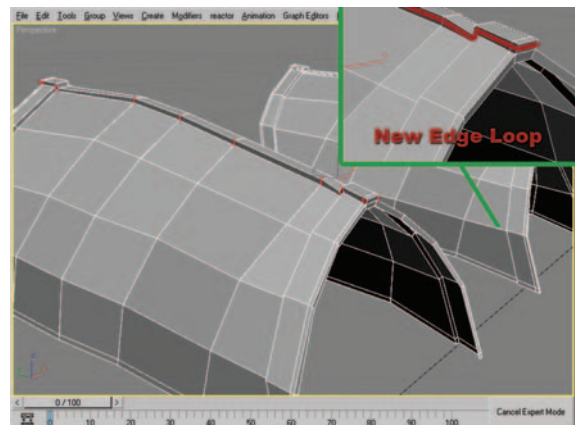

Figure 10.13 Edge-ring selection and resulting mesh after using Connect.
15. At the Edge subobject level, select the edge ring seen in Figure 10.13 (left) and use Connect to create an additional edge loop as seen in Figure 10.13 (right).